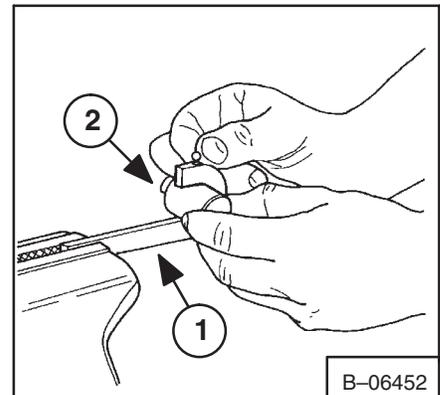

Fig. 2-38a Detent Tool
1. Install the detent tool in the vise (Fig. 2-38a, Item 1).